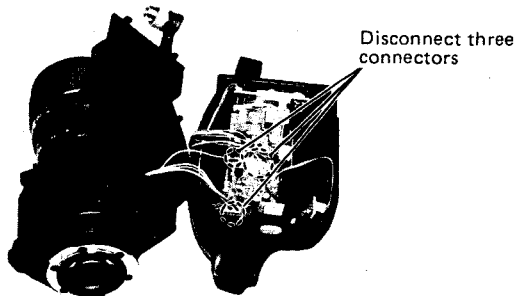

Fig. 4-2
- o Disconnect three connectors CN2, 3 and 6 on the Lens control board. (Fig. 4-2)